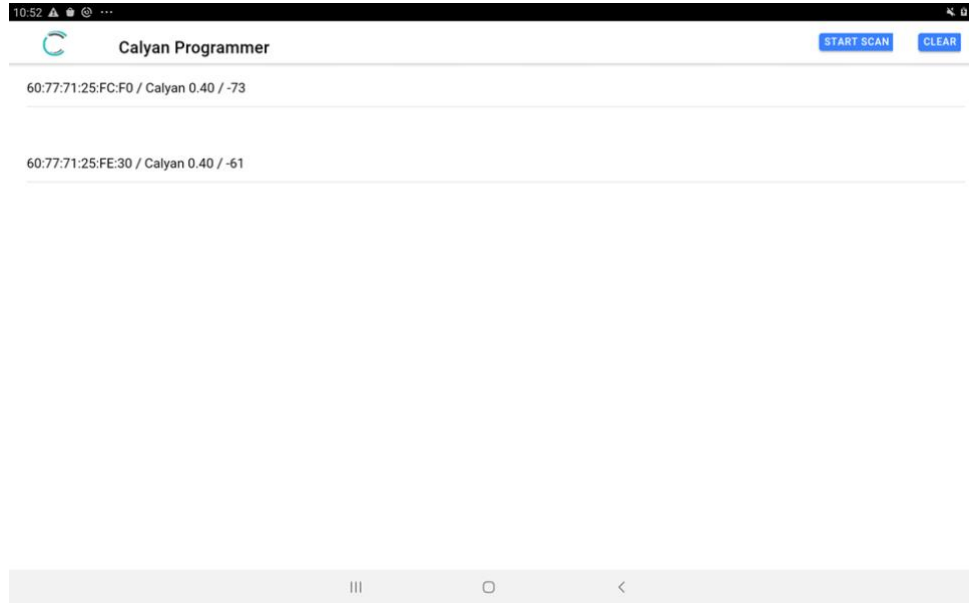

Figure 37: Multiple Device discovery
2. A progress spinner will appear next to the selected Device (Figure37).